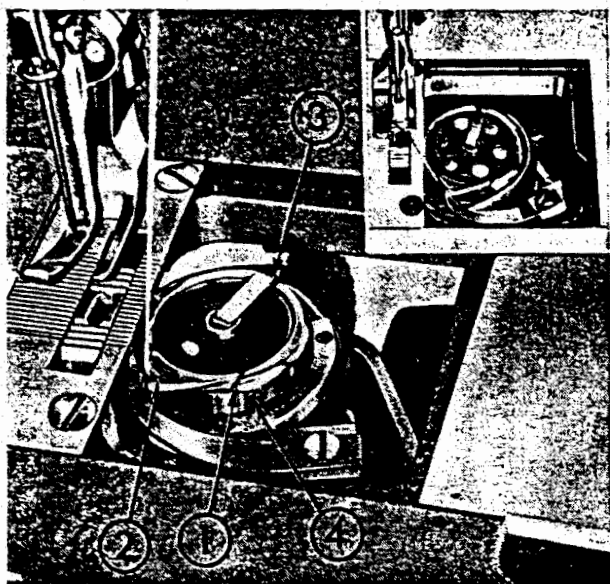

Fig. 9
9. How to insert the bobbin into the bobbin case and passing the bobbin thread (Fig. 9)
The tension of the bobbin thread is adjusted by turning the screw (Fig. 9 ④) on the outside of the bobbin case. If this screw is turned to right, the tension gets stronger and if turned to left, it gets weaker.